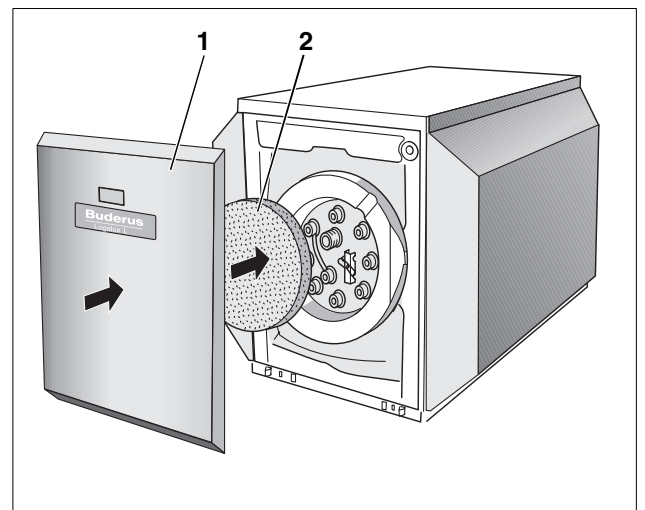

Fig. 14 Installation of insulation and front cover
- Place insulation ring (Fig. 14, **page 13. 2**) on clean-out cover.
- Install front cover (Fig. 14, **page 13. 1**) and secure with 4 screws.